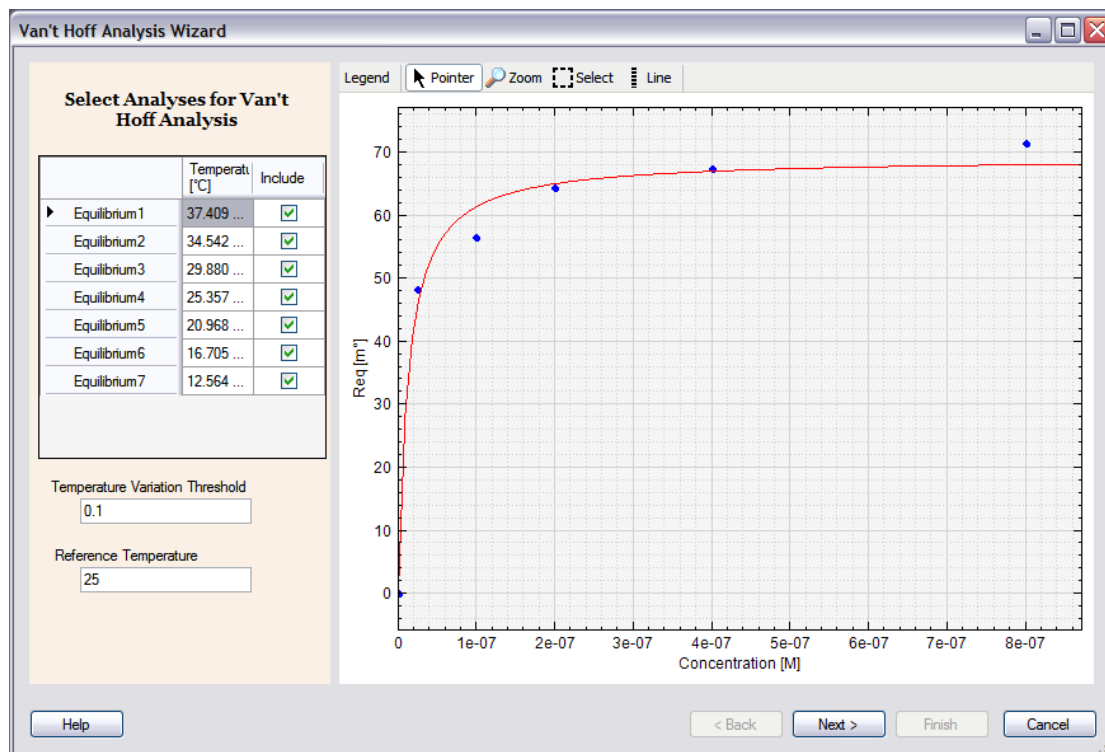

Figure 7.10 – Initial panel of Van't Hoff Wizard.
Step 1 of the Van't Hoff Wizard is to select the K_A fits that will be used in the Van't Hoff Analysis. Figure 7.10 shows the first panel of the Van't Hoff Wizard. On the left is a table of the Equilibrium Analyses. The first column of the table shows the temperature of measurement.